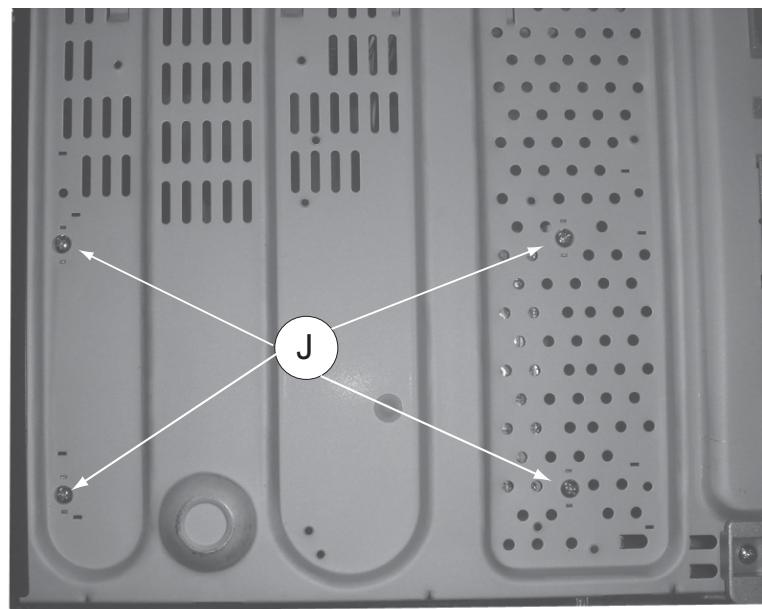

Figure 14
- 1) Loosen 4 screws 'J' to remove the Power Board figure 14.